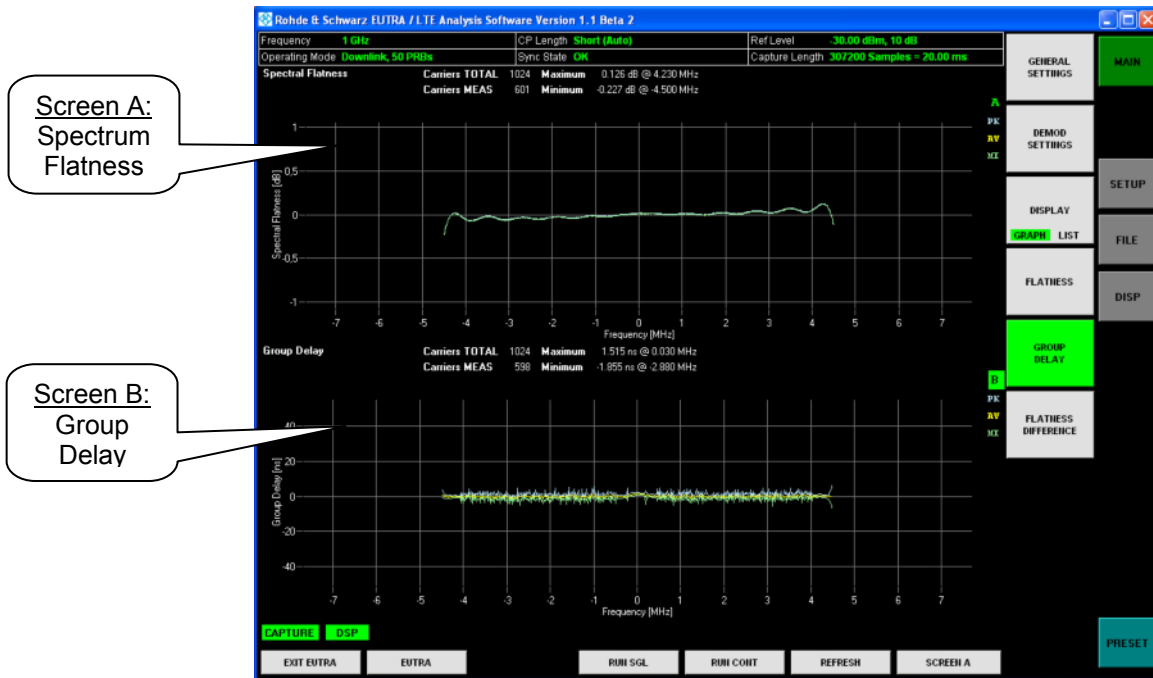

Figure 4-11 Analyzing EUTRA/LTE DL signals – Spectrum Flatness & Group Delay
6. Spectrum: Flatness (Figure 4-11: Screen A)
7. Spectrum: Group Delay (Figure 4-11: Screen B)